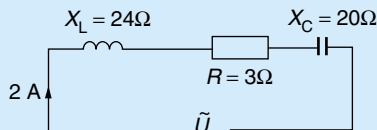

Figure 8
16. A coil of resistance 20Ω and inductance 0.08 H is connected to a supply at $240 \text{ V } 50 \text{ Hz}$. Calculate (a) the current in the circuit, (b) the value of a capacitor to be put in series with the coil so that the current shall be 12 A (CGLI) (Figure 8)
17. For the circuit shown in Figure 8, the voltage V is